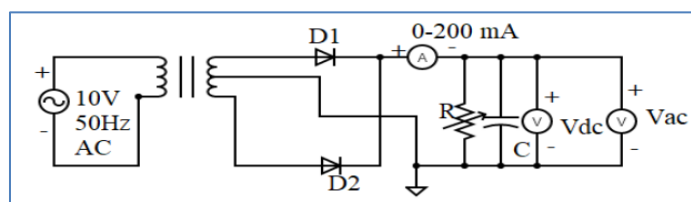

Fig 11 Full wave rectifier with filter
3.4 Verification of Full wave rectifier with filters using hardware shown in fig 11 and draw the waveforms.